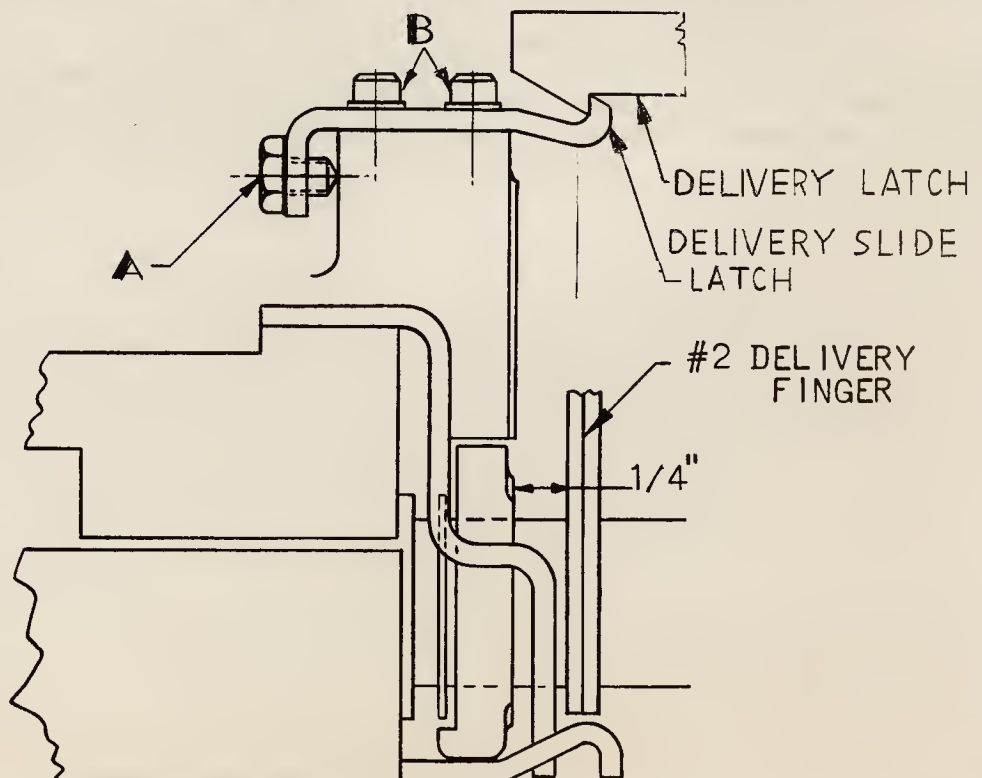

FIG. 19
(A) Delivery Slide Latch (Fig. 19)